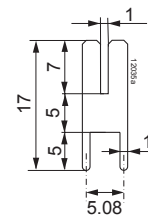

Fig. 19
- Solder-tags for direct mounting of the regulator to a PCB board; see fig. 19.